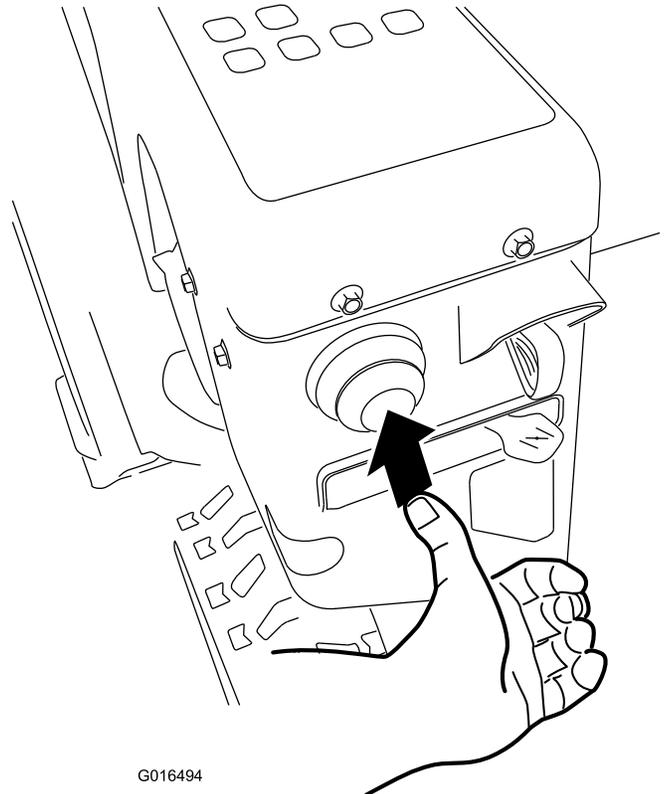

Figure 29
4. Firmly push in the primer with your thumb 3 times, holding the primer in for a second before releasing it each time (Figure 29).